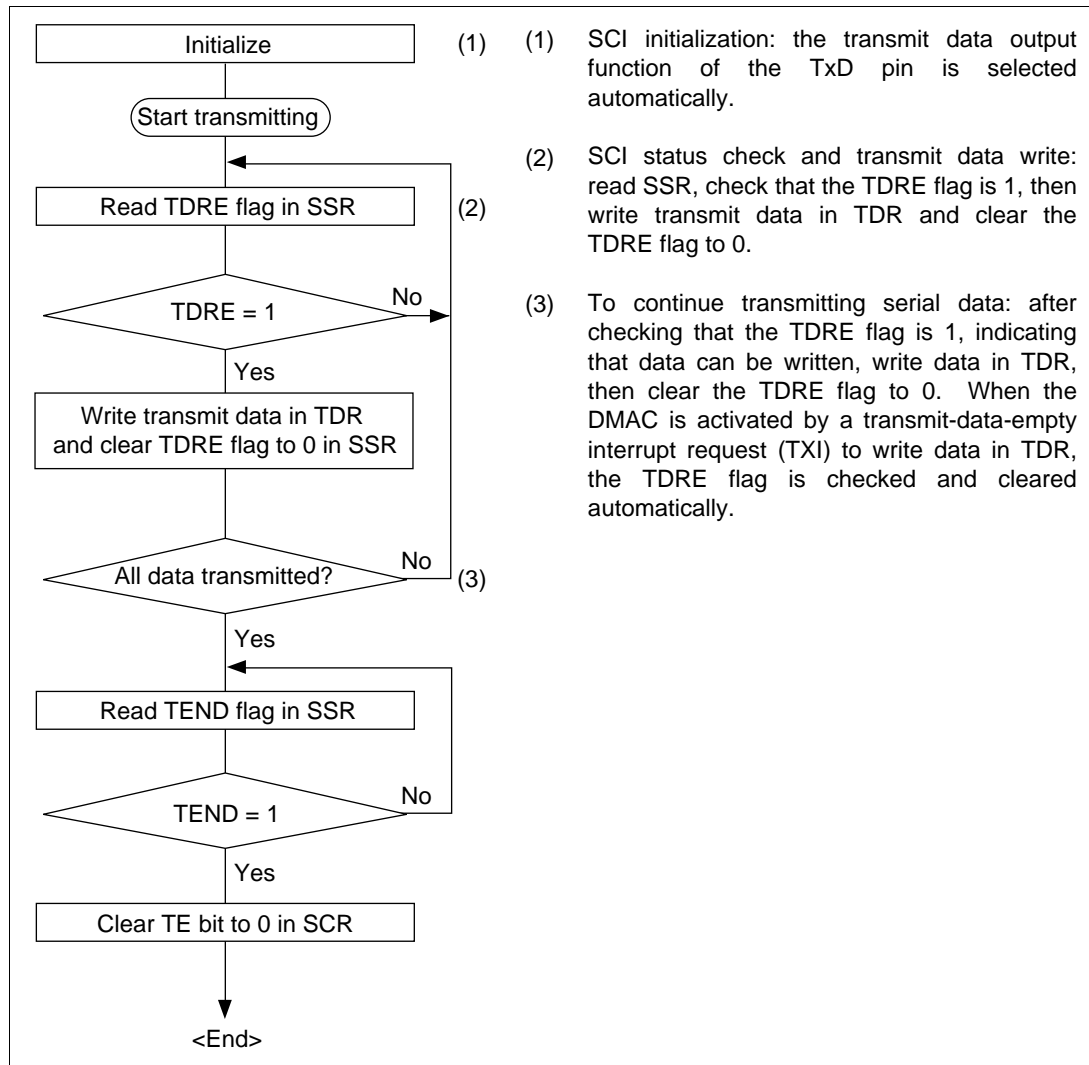

Figure 13.16 Sample Flowchart for Serial Transmitting
- Transmitting Serial Data (Synchronous Mode): Figure 13.16 shows a sample flowchart for transmitting serial data and indicates the procedure to follow.